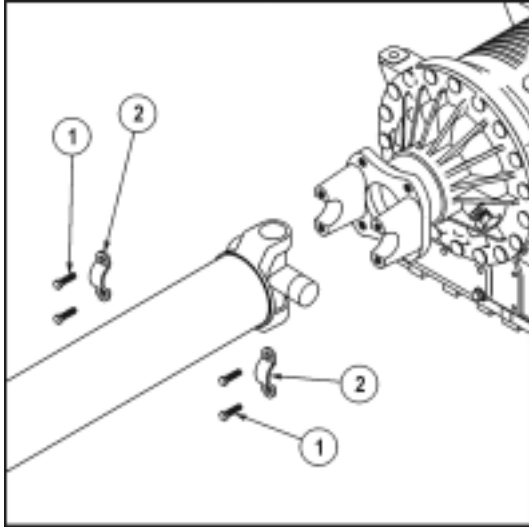

Figure 1—Drive Shaft Disc
2. Remove bolt (1) and strap (2) from two places at the transmission yoke. **Figure 1.**
To install the driveline, carefully place the universal joint cross journals into the saddles on the transmission yoke. Install straps (2) and cap screws (1) in two places. Torque to 40 - 48 ft-lbs. (54 - 65 Nm). **Figure 1.**